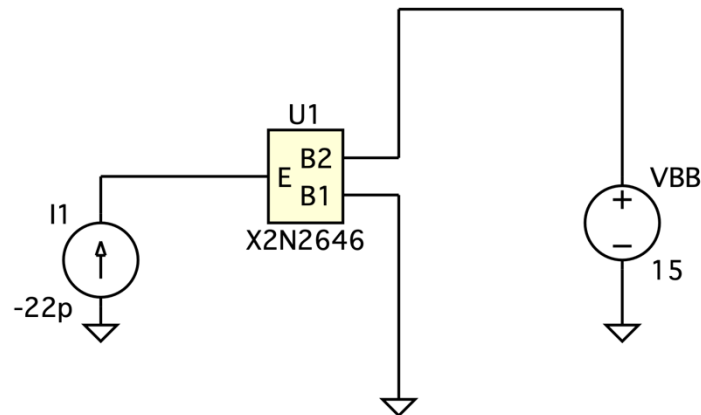

Fig. 3.8 Experimental circuit for Part A
- Construct the circuit as shown on Fig. 3.8.